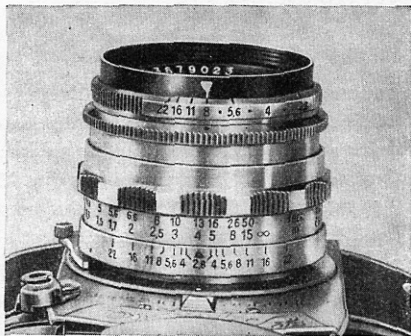

Fig. 14
To obtain critical sharpness turn the distance ring (23) until the main subject appears absolutely sharp on the focussing screen in the Finder Hood (11). Then you will see the lens-to-subject distance on the scale of the distance setting ring (23) opposite the red mark (Fig. 14/15).
pears behind the infinity sign (∞) — proceeding from the middle — the sharpness will extend to infinity. Example (see Fig. 14): Lens set at 4 m, diaphragm stop 8: range of sharpness from about 2,60 to 8 m (using a lens with 5 cm focal length). If employing a lens with 5,8 cm focal length, the depth of field will be somewhat reduced: lens set at 4 m, diaphragm stop 8: range of sharpness from about 2,80 m up to about 7,50 m (see Fig. 15). — All these distances are measured from the film plane of the EXAKTA Varex to the subject. Most lenses of the EXAKTA Varex are provided with a device for "pre-setting the diaphragm". The brightness of the ground glass screen image being considerably diminished when the diaphragm is stopped down, focussing should always be done at full aperture, and the lens stopped down afterwards. But to avoid having to move the camera from the taking level in order to stop down the aperture, the device for the "pre-set diaphragm" has a stop ring (24a) for the diaphragm (e. g. f/8) which can be set in advance. On the majority of lenses, you press back and turn the knurled stop ring (24a) (Fig. 15) behind the diaphragm ring until the aperture required is opposite the red mark. Then let the knurled ring (24a) spring back. The diaphragm ring now stops fast at the "pre-set" aperture and may be turned back to this point without visual control after focussing at full aperture. As a logical continuation in the development of the "pre-set diaphragm" several of the EXAKTA Varex lenses have been equipped with the "automatic diaphragm pre-setting device", a great advantage if you consider that releasing the shutter automatically closes down the diaphragm to the pre-selected aperture. The "automatic diaphragm" has to be wound up as shown in Fig. 16: Move the lever underneath the lens to the right (seen in viewing direction). With the lens at full aperture, the spring device clicks in and the lever automatically jumps back to its original position.